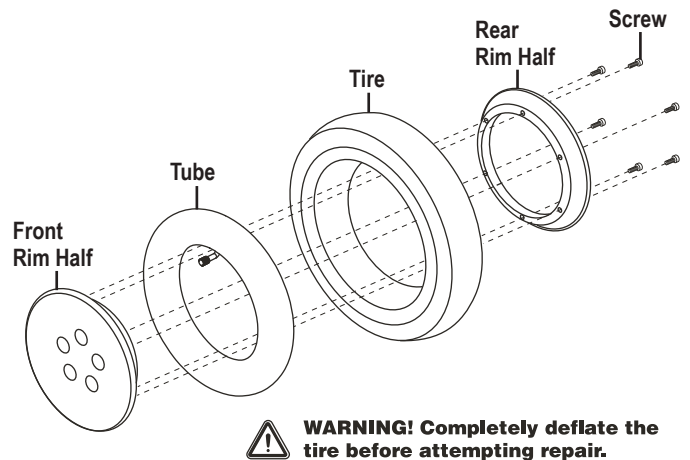

Figure 11. Quantum R-TRAK Drive Wheel Disassembled
6. Remove the screws and separate the front and rear rim. **See figure 11.**
10. Reinstall the five (5) lug nuts onto the wheel hub and tighten.